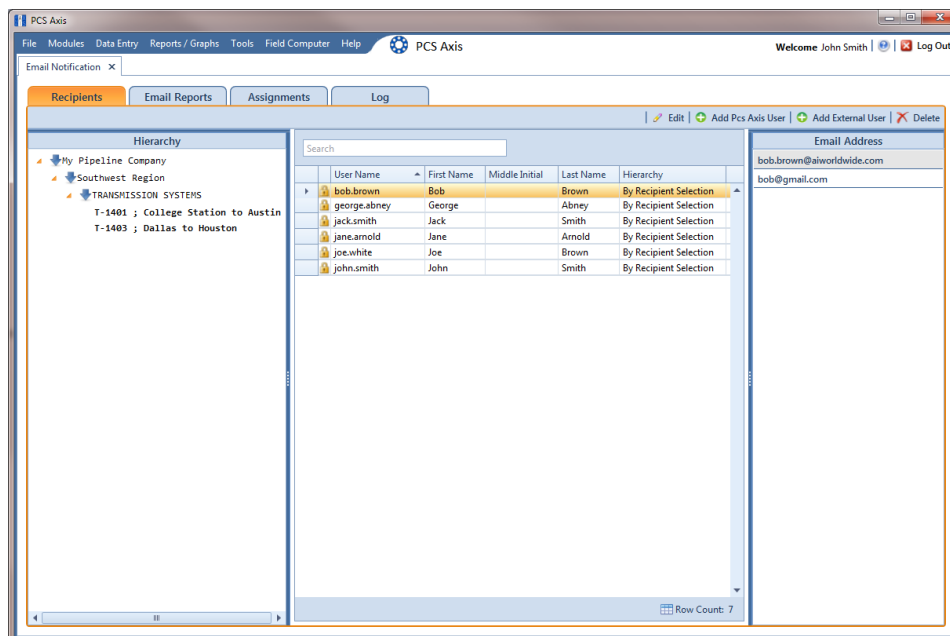

Figure 12-1. Recipients / Add PCS Axis User
- 3 Select a user name in the center panel (Figure 12-1).